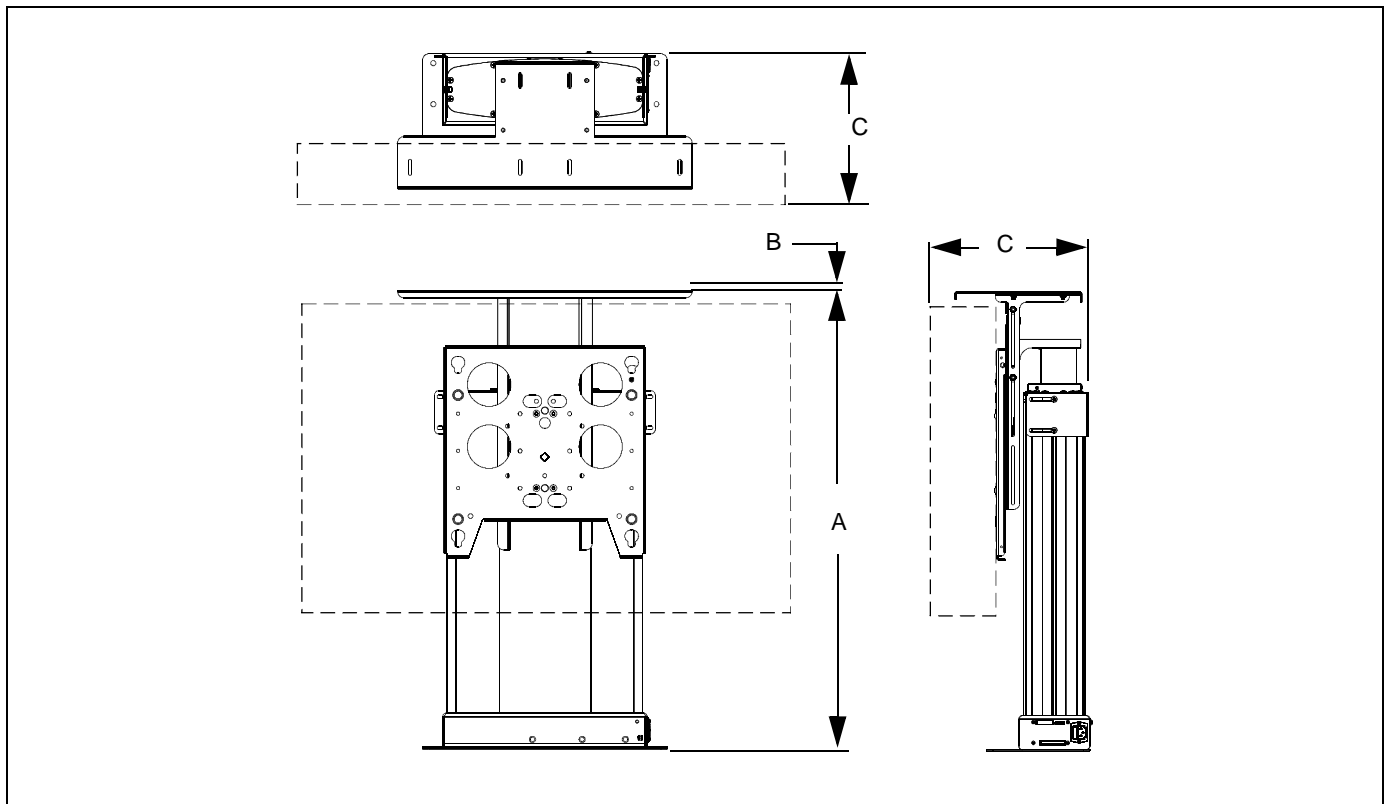

Figure 16
1. Measure and record distance "A" in figure below. (See figure 16)
2. Measure and record distance "B" from figure below. This is the material thickness of the cover that will be mounted to the CM2. (See figure 16)
4. Measure and record distance "C" in figure below. This dimension is from the back side of the CM2 vertical mounting bracket to the furthest point forward on the display. (See figure 16)